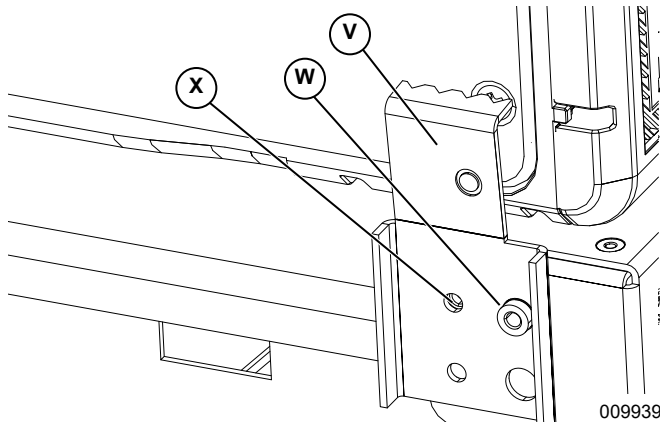

Figure 4-21. Retention Clips (3 of 3)
1. See **Figure 4-21**. Align holes in retention clip (V) with stud (W) and mounting hole (X)